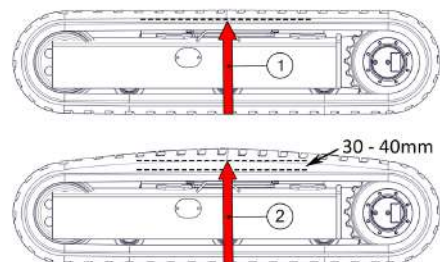

Figure 39 - Checking Track Tension
2. Measure from the ground to the inside edge of the track at the top central location (Figure 39, Item 1).
3. Pull the top centre of the track firmly upwards and measure the deflection from the initial measurement (Figure 39, Item 2).